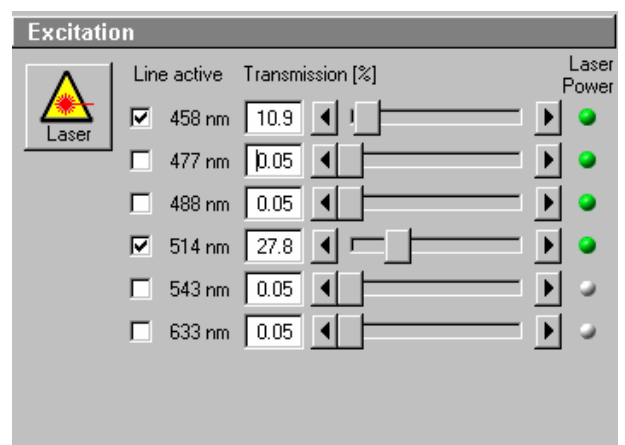

Fig. 21 Scan Control window, Channel settings
- Set the **Pinhole** to **1** Airy Unit (Fig. 21).
- When the image is saturated, decrease laser power in the **Excitation** panel (Fig. 21) using the slider.
- Increase the **Amplifier Offset** until all blue pixels disappear, and then make it slightly positive (Fig. 21).